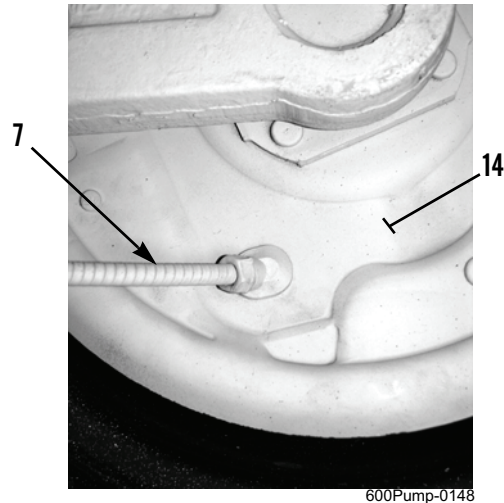

Figure 7. Hand Brake Cable at Backing Plate.
3. Connect hand brake cable sheath (Figure 7, Item 7) to backing plate (Figure 7, Item 14).